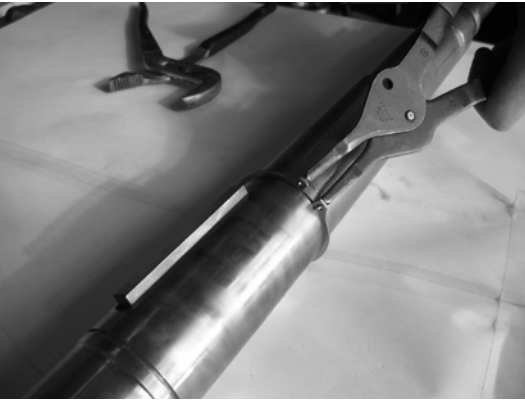

Figure 36: Installing the Impeller Retaining Ring
2. Install the first impeller retaining ring. (See Figure 36.)